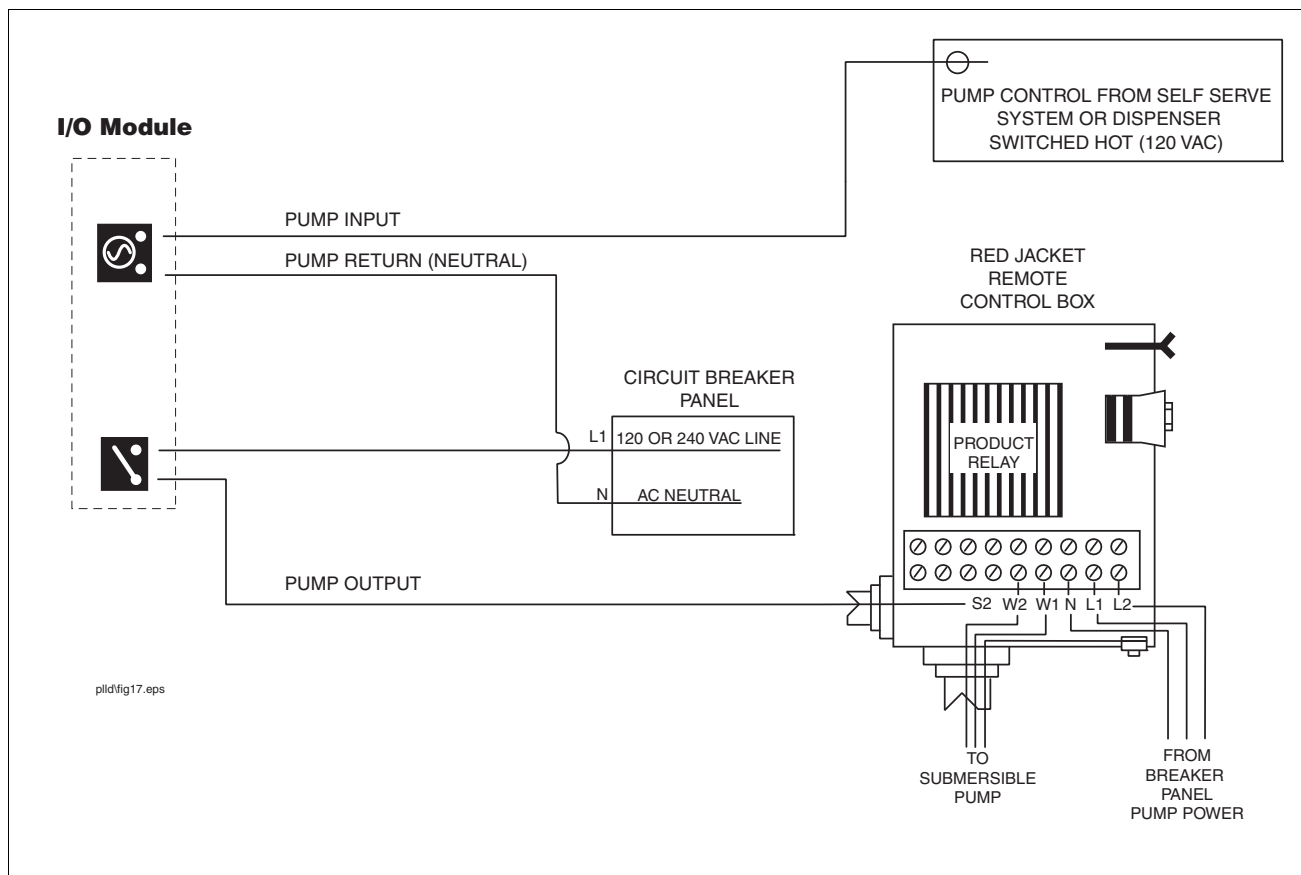
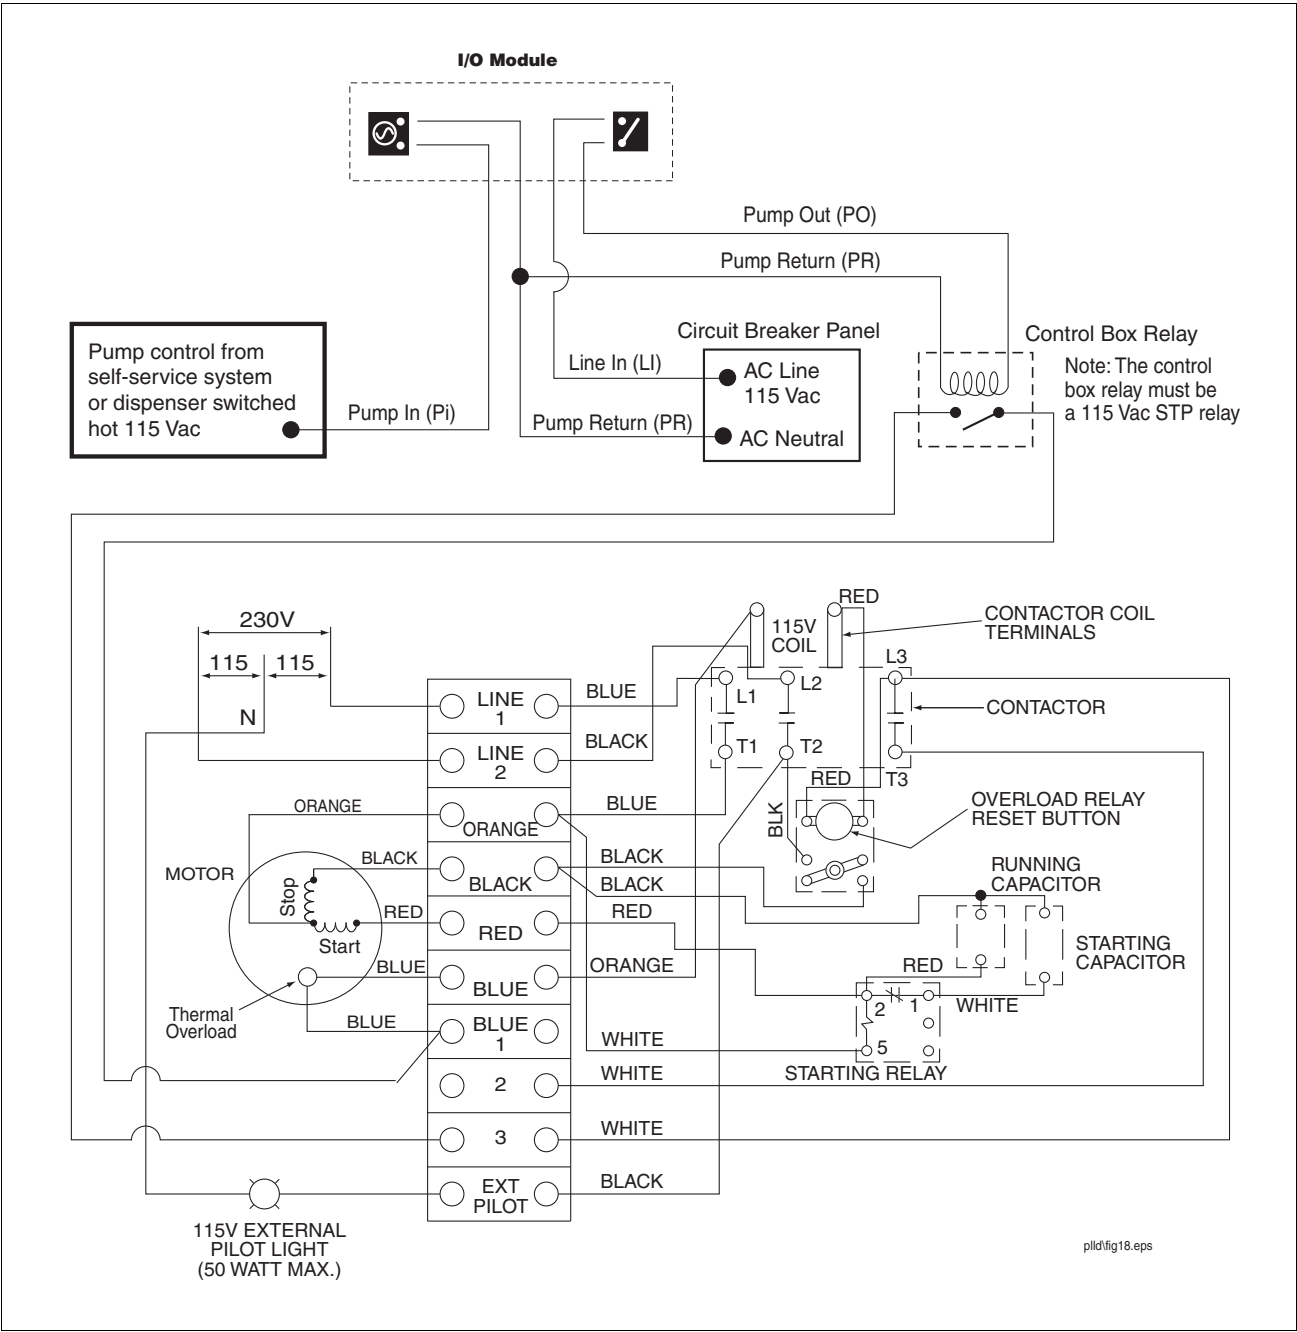
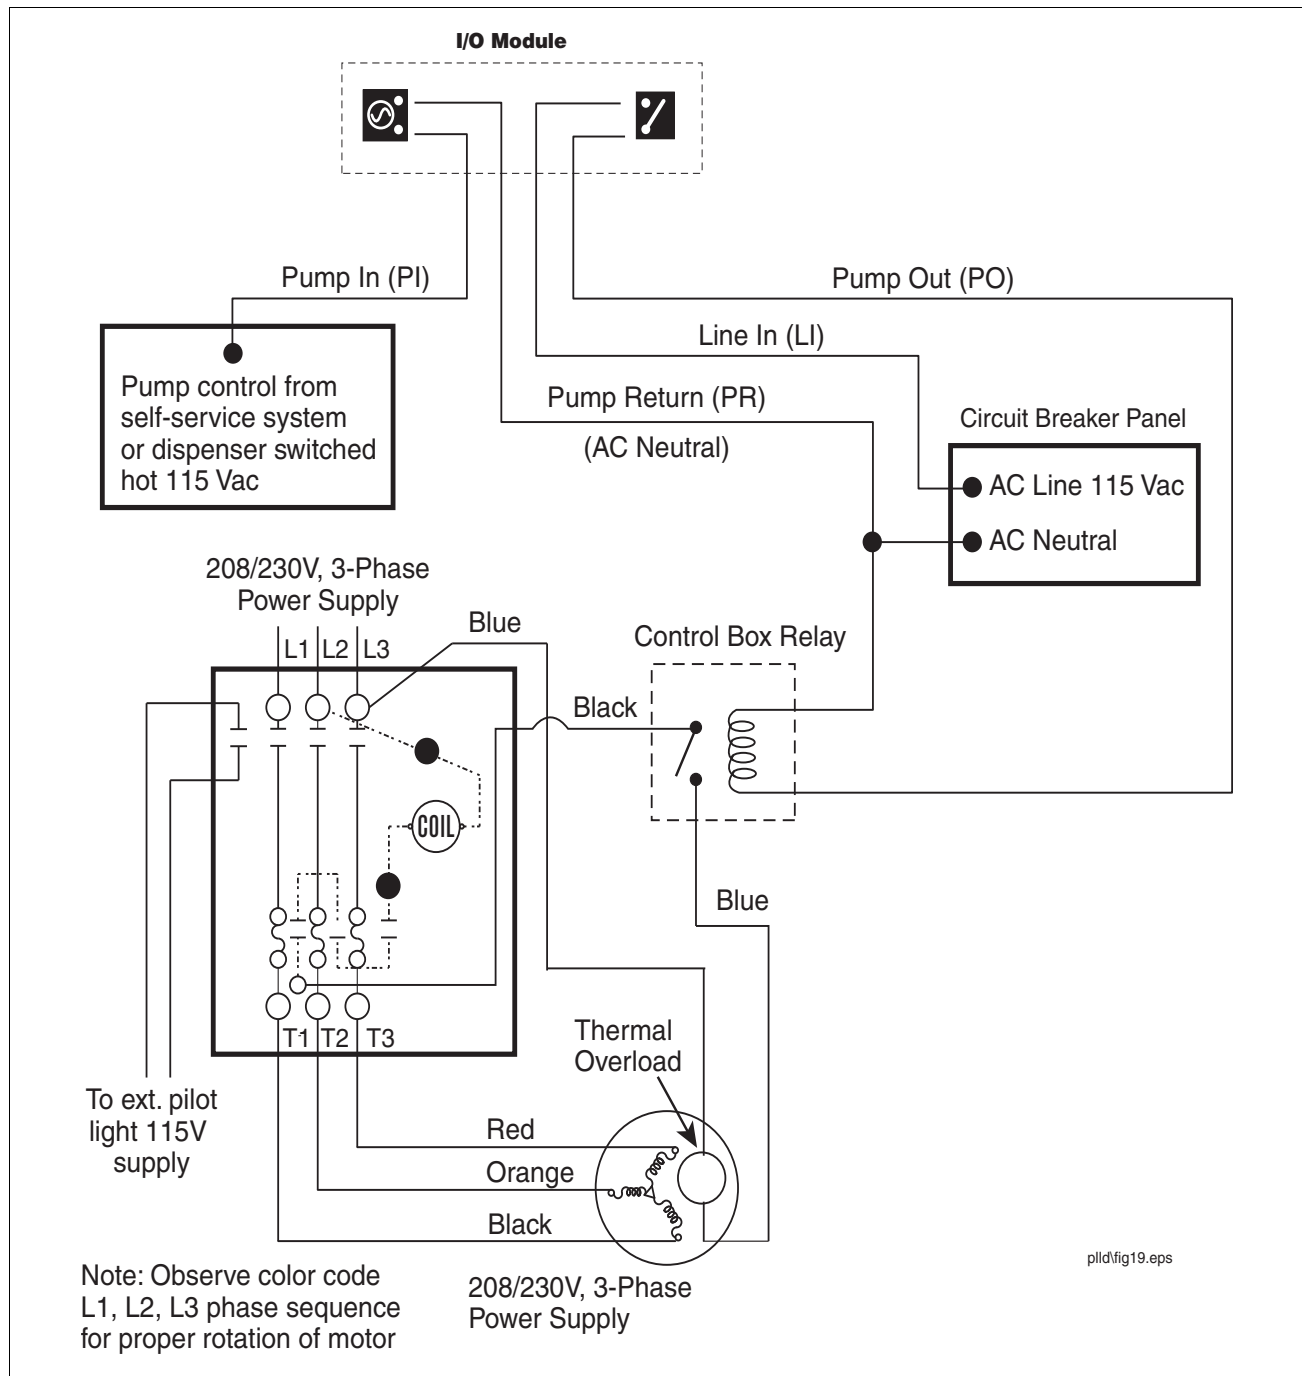

Figure 17. DPLLD pump control diagram for Red Jacket relay control box
Figure 18. Red Jacket Maxxum Big-Flo single-phase wiring
Figure 19. Red Jacket Maxxum Big-Flo 3-phase wiring
- Red Jacket (ref. Figure 17, Figure 18, and Figure 19)